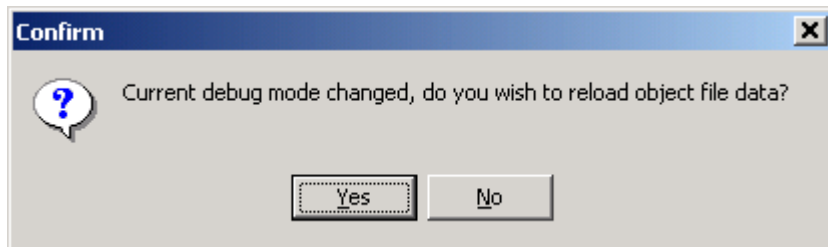

Figure 7-6: Confirm Window
10. Click Yes in Confirm window. (**Figure 7-6**)